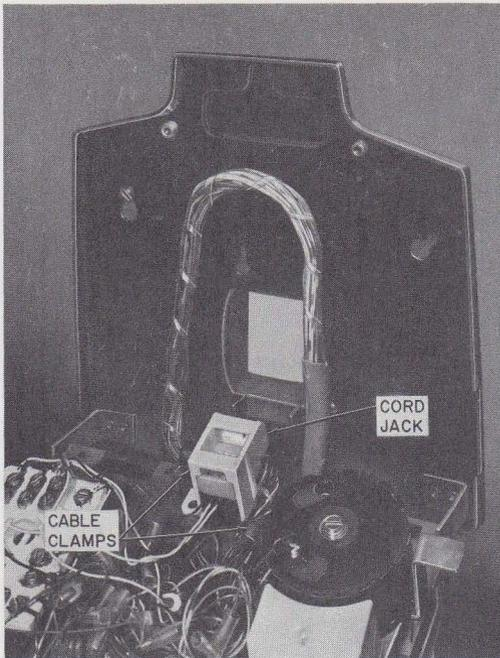
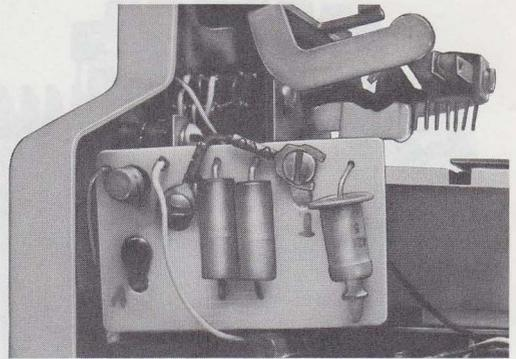
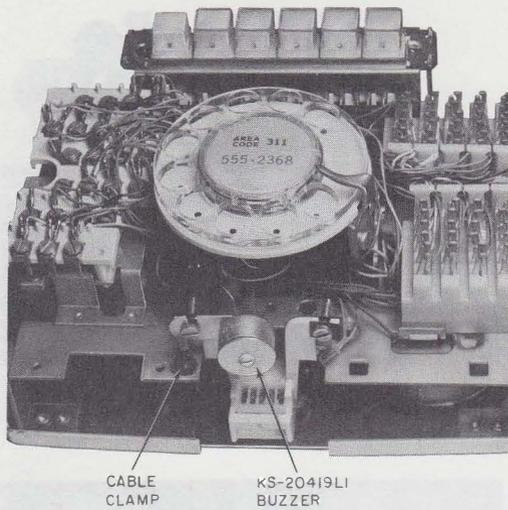

Fig. 7—Inside Wiring Cable, Exposed Wiring (Early Version)
**Fig. 9—Connector Cable and D-180375 Kit of Parts (Early Version)**
Fig. 13—KS-20419L1 Buzzer Mounted on 851-Type Telephone Set
- (1) Remove sheath to surface of outlet box or bottom of hole in base pan, depending on method of wiring.
- (2) Remove cable clamps. Pinch legs of clamp from front of chassis (Fig. 13).
- (3) Slip one of the clamps provided with set around conductors approximately 9 inches from end of sheath. Add second clamp 2 inches above first.
- (4) Form slack loop as shown in Fig. 7 or 8 and install first clamp in hole to left of cord jack.
**3.06** On all sets except CM codes, if the set is served by the connector equipped end of a A25B connector cable, a D-180375 Kit of Parts must be used to obtain raw-ended conductors for termination. The mated connector and plug should be located as shown in Fig. 9. Check that connector and plug do not interfere with operation of line switch. Cable is routed and fastened in same manner as IW cable (Fig. 7 and 8).
**3.16 Buzzer:** The KS-20419L1 buzzer is mounted on an insulated bracket below the dial (Fig. 13). If required, an additional KS-20419L1 may be added or the existing KS-20419L1 may be replaced by the KS-8109L2 buzzer (14-30 volt ac or dc) which would be mounted using both screws.